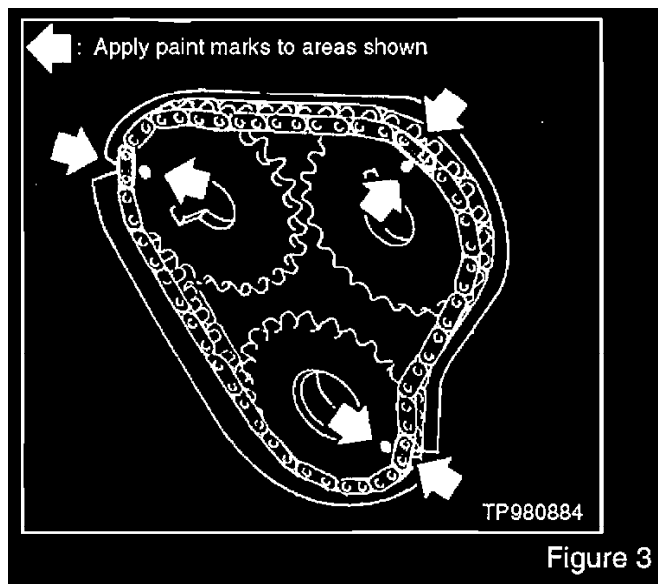

Figure 3
10. Wipe off the links of the upper timing chain next to the timing marks on the sprockets. Put paint marks on the timing chain, matching them with the timing marks on the cam sprockets and idler sprocket (see Figure 3)
11. Remove the four (4) front cover to cylinder head bolts.